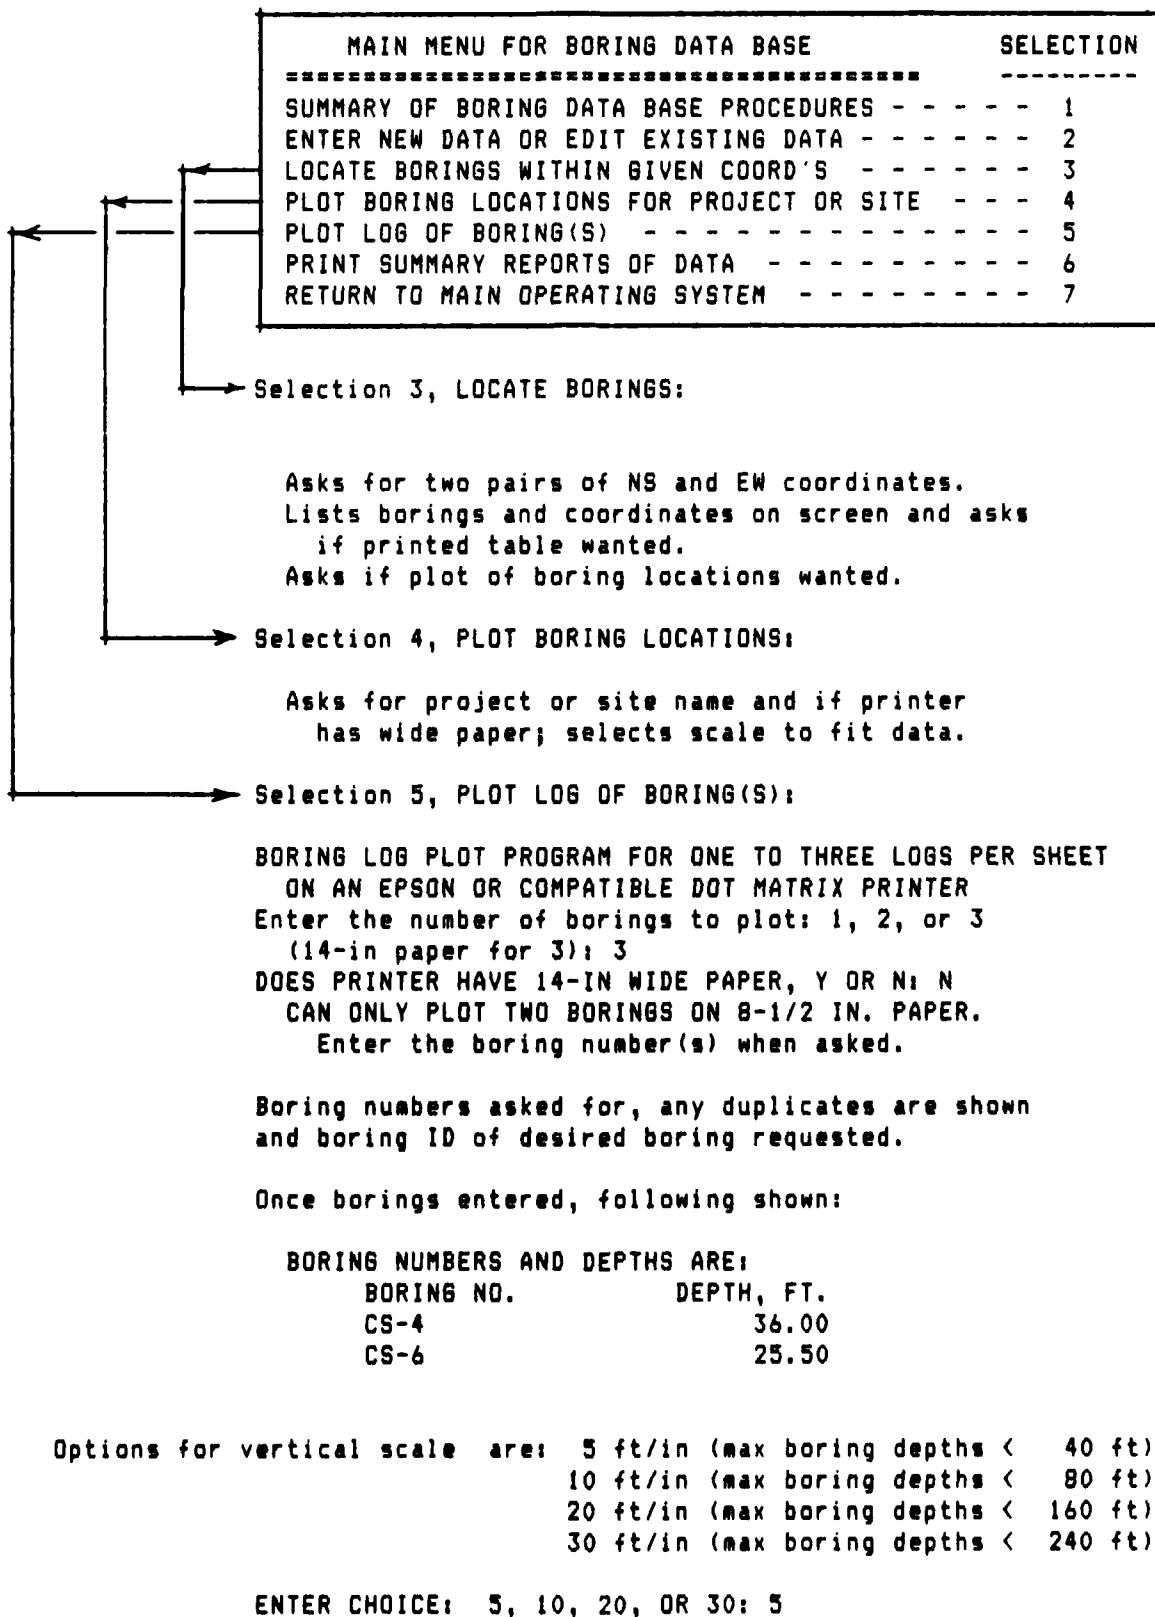

Figure 4. Options for locating and plotting borings
15. Data retrieval and display are done automatically using the selections shown on the menus in Figures 3 and 4. The selections for summary reports are shown on the menu in Figure 3 and the selections for locating and plotting borings are shown in Figure 4. Examples of these selections are shown in Appendix C.
17. The options for locating and plotting borings shown in Figure 4 are generally self-explanatory. A few important points about the programs for these options are mentioned below.
20. The boring log plot (selection 5) shows the feature (strata) name and description and plots these items to the vertical scale selected by the user. An example of the selection process is shown in Figure 4. The limitations of the vertical scale options and the need to ensure that no data are skipped require that all data with an elevation greater than each line elevation be plotted in sequence. Thus when data elevations are closely spaced, the true vertical location may be lower than it should be until a gap in the elevation of data occurs.